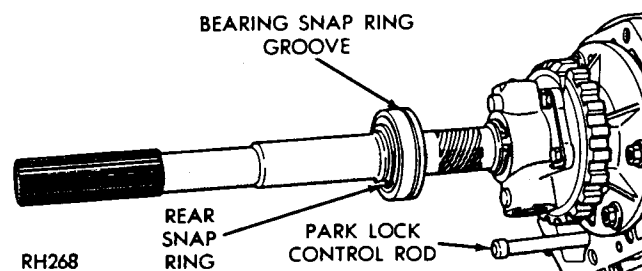

Fig. 8—Output Shaft Bearing
(1) Using heavy-duty snap ring pliers, remove output shaft bearing rear snap ring and remove bearing from the shaft (Fig. 8).
(2) Install a new bearing on shaft with outer race ring groove toward front, then install rear snap ring. A-727 has a snap ring in front of bearing; A-904T and A-999 do not.